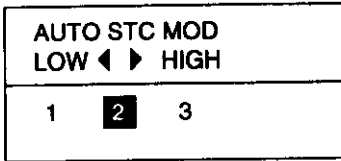

Figure 1-8 Dialogue for automatic adjustment of STC
1. Press the [STC] key to show the dialogue shown in Figure 1-8.